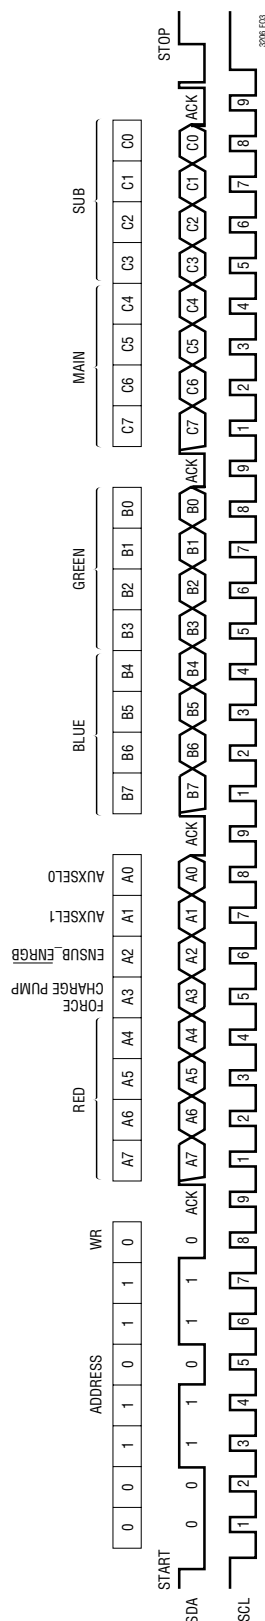

Figure 3. Bit Assignments
**SDA (Pin 8):** Input Data for the I2C Serial Port. Serial data is shifted in one bit per clock to control the LTC3206 (see Figures 3 and 4). The logic level for SDA is referenced to DVCC.
**SCL (Pin 9):** Clock Input for the I2C Serial Port (see Figures 3 and 4). The logic level for SCL is referenced to DVCC.
The charge pump of the LTC3206 can be forced to come on even if no LEDs are programmed for current. Setting bit A3 in the I2C serial port forces the charge pump on (see Figure 3).
(see Figure 3 and Table 3) determines which display ENRGB/S controls. When bit A2 is 0, the ENRGB/S pin controls the RGB display. If it is set to 1, ENRGB/S controls the SUB display.